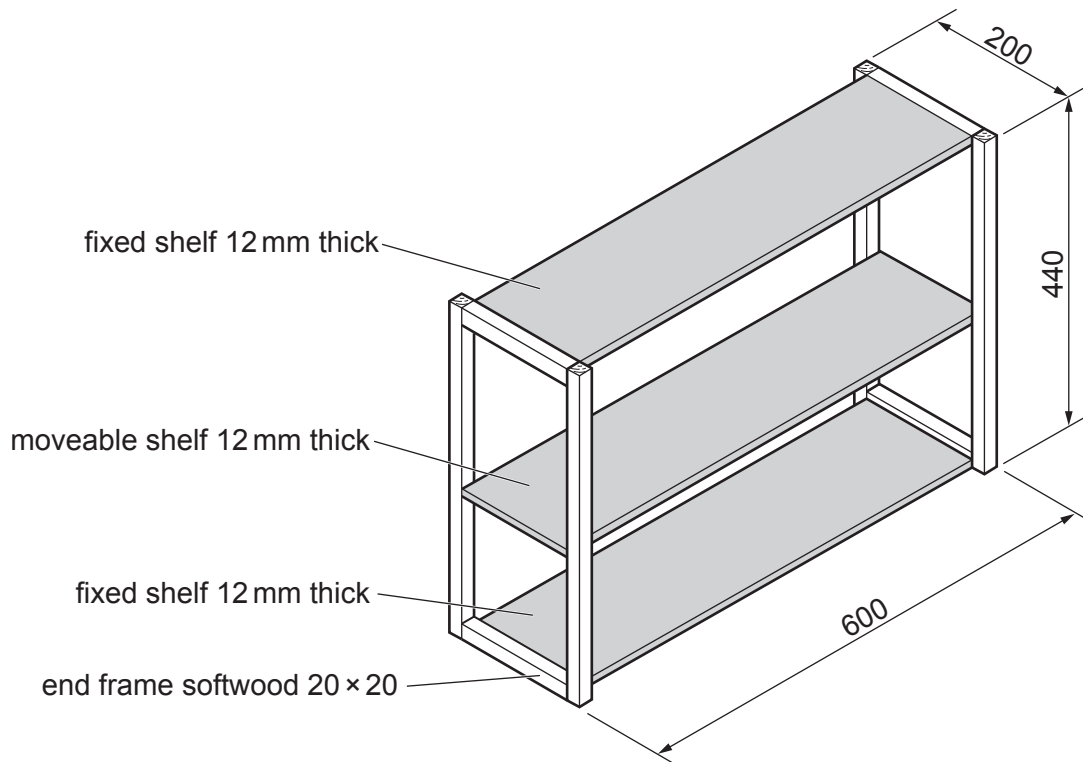

Fig. 13.1
- 13 Fig. 13.1 shows an incomplete design for a wall-mounted shelf unit for a bathroom. The end frames are made from softwood. The shelves are made from manufactured board.